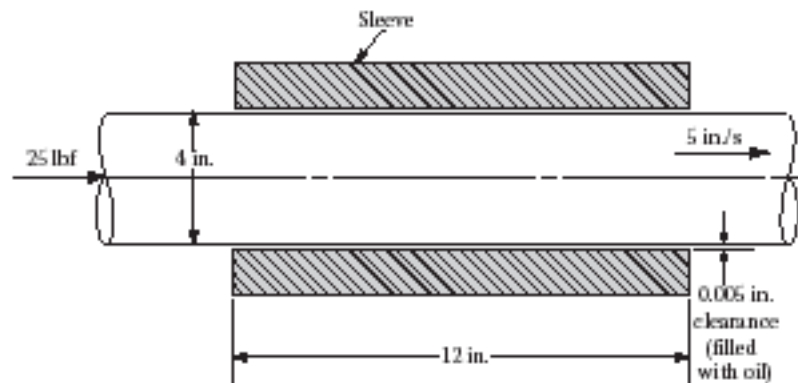

FIGURE P1.32
- 1.32 Figure P1.32 shows a shaft 4 in. in diameter moving through a well oiled sleeve that is 12 in. long. The force required to move the shaft is 25 lbf, and the shaft velocity is 5 in./s. The oil filled clearance between the shaft and sleeve is 0.005 in. Calculate the viscosity of the lubricating oil (a Newtonian fluid).